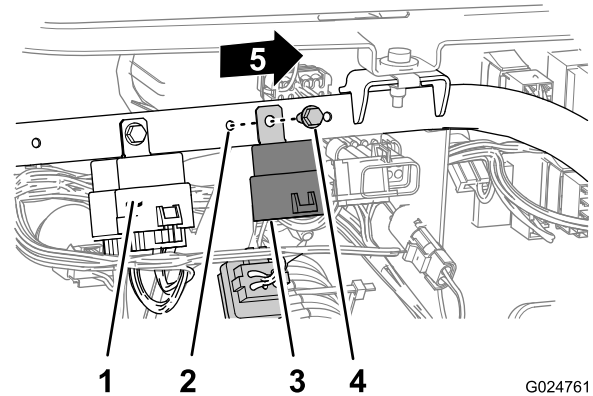

Figure 37
1. Align the hole in the front-differential relay with the hole in the dash-support tube that is outboard of the existing relay of the machine (Figure 37).
2. Secure the relay to the machine (Figure 37) with the hex-washer head bolt (1/4 x 5/8 inch).